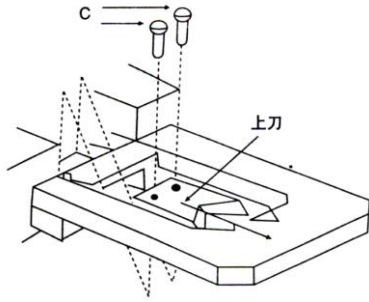

Fig 3-5
- 3) Refer to Fig 3-5, take off the blades, and then fix the blades in right sequence against the steps that you take off the blades.